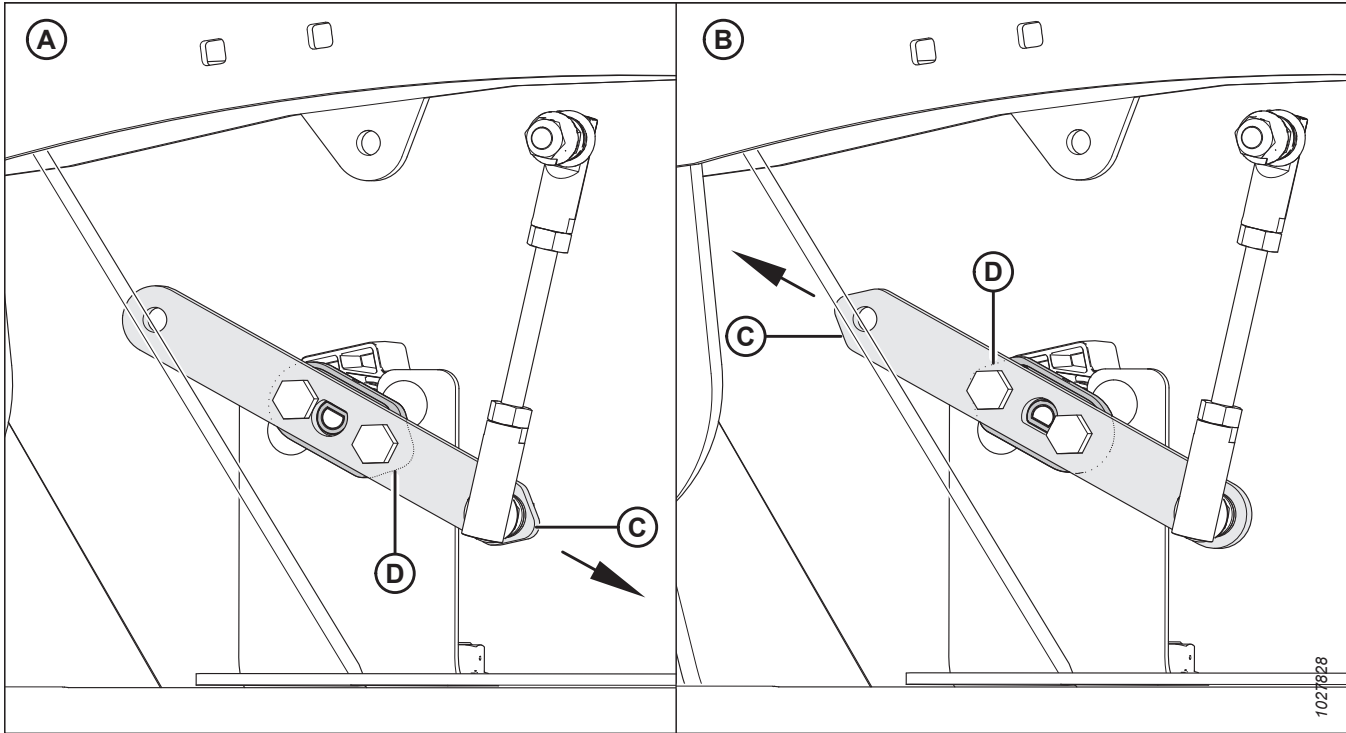

Figure 8.1: Sensor Arm/Pointer Configurations
2. Check that sensor arm (C) and pointer (D) are configured properly for your machine. Refer to Figure 8.1, page 388.